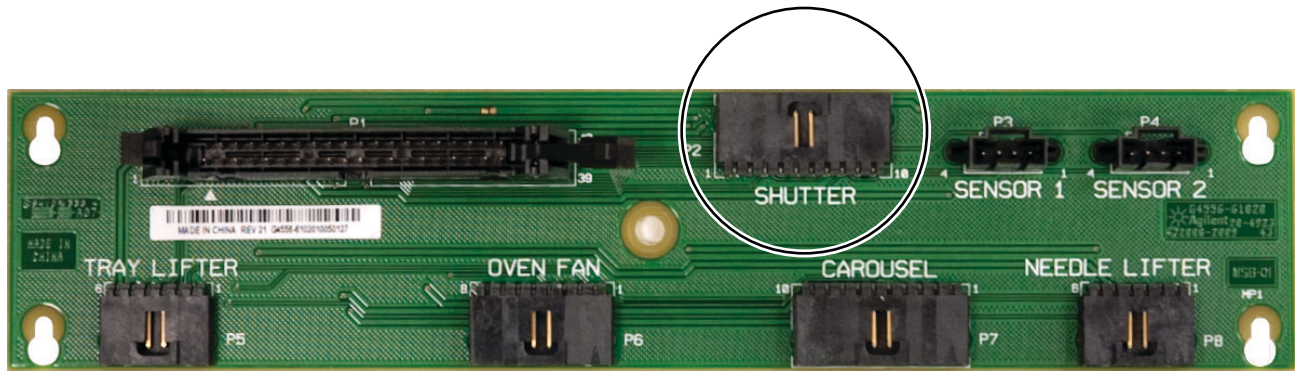

Figure 17 The connector board
- a Disconnect the shutter motor cable from the connector board (Figure 17).